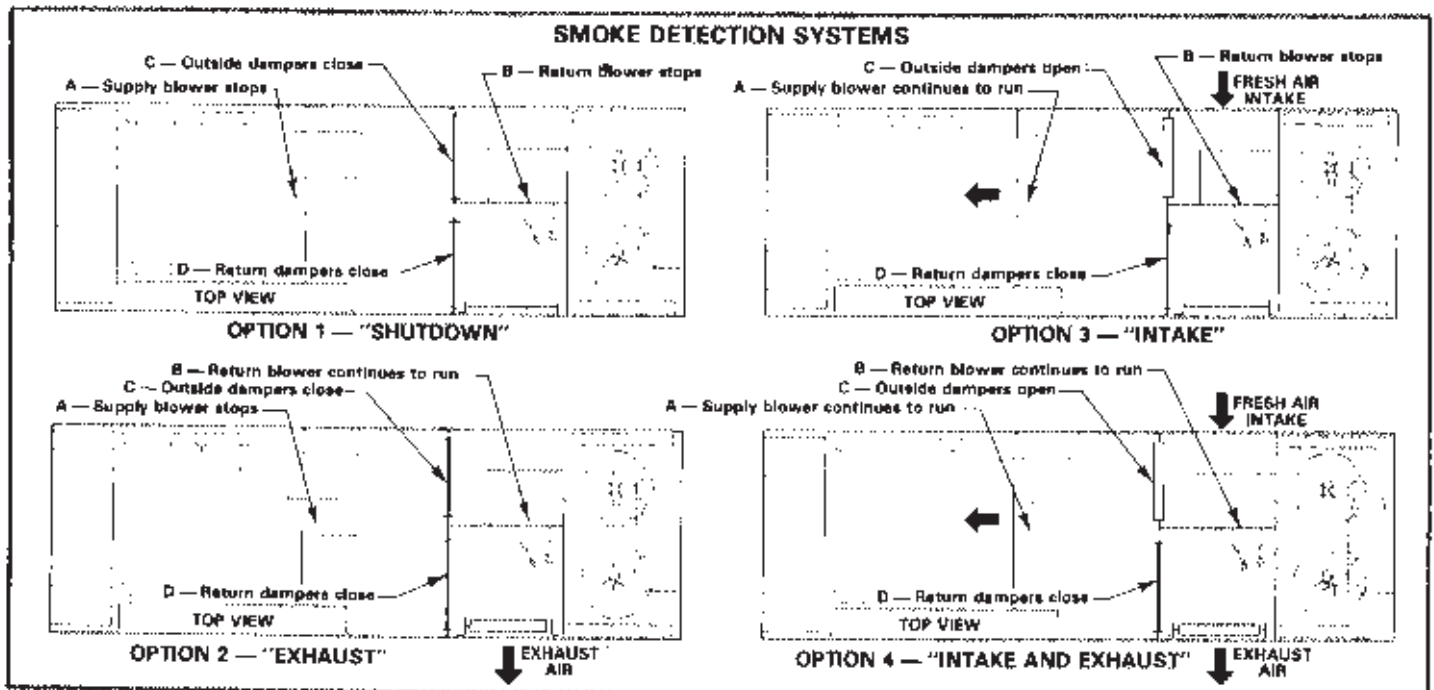

FIGURE 19
5. With the presence of smoke, the smoke detection system (optional) terminates heating and cooling functions and provides 4 options of controlling blower and damper operation. See Figure 19.
tional) terminates heating and cooling functions and provides four options of controlling blower and damper operation. See Figure 19.